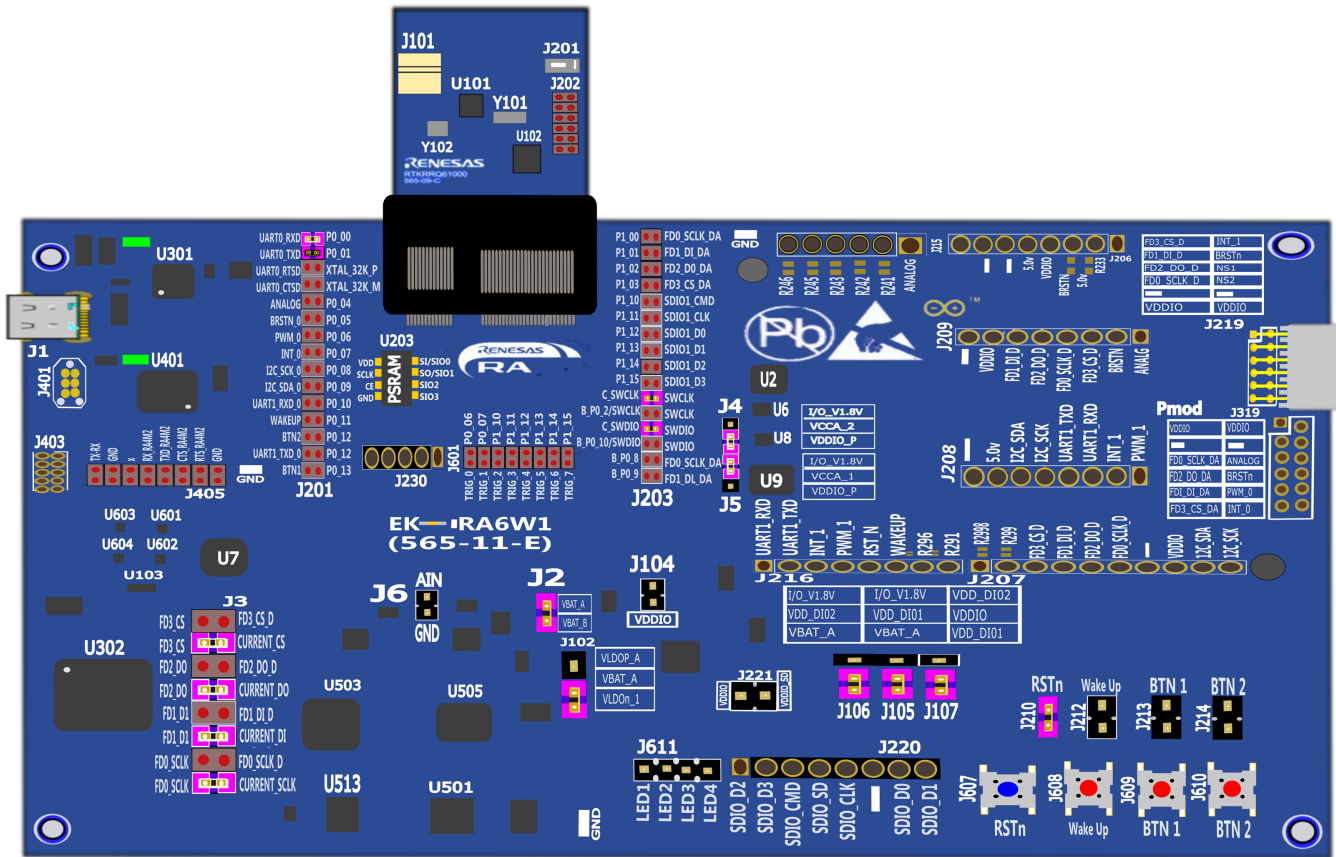

Figure 111. RA6W2 EVK hardware
- Hardware: RA6W2 EVK, see Figure 111.